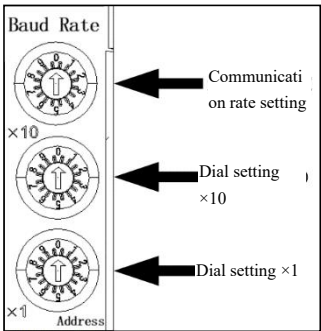

Figure 5-6-4 DIP switch
4. Dip switch, as shown in Figure 5-6-4. Table 5-6-3 lists the dip switch parameters.